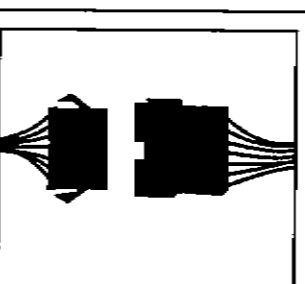

Fig. 3
- Before the front grill can be completely removed from the cabinet, it will be necessary to disconnect the (male/female) electrical wire harness located directly behind the front grill control panel. Fig 3